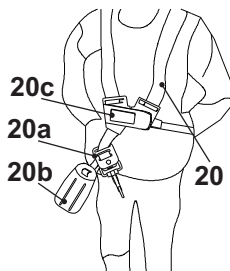

Fig. 12
1. Adjust the position of the suspension sleeve (11a) if necessary. Make sure it is well fixed on the upper pole (11) before operation.
2. Place the harness (20) so that
- the belts must be tensioned in a way that the load is distributed evenly on the shoulders (Figs. 12, 13).